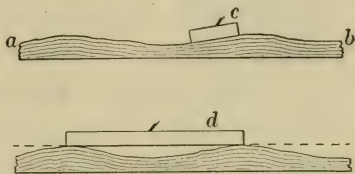

FIG. 25. Action of Short and Long Planes
12. Jointers. For straightening very rough and uneven stock a long plane is necessary (Fig. 25). In the illustration let line *ab* represent the edge of a very uneven board. A short plane *c* would simply follow the hills and hollows, smoothing but not straightening it, while a long plane,